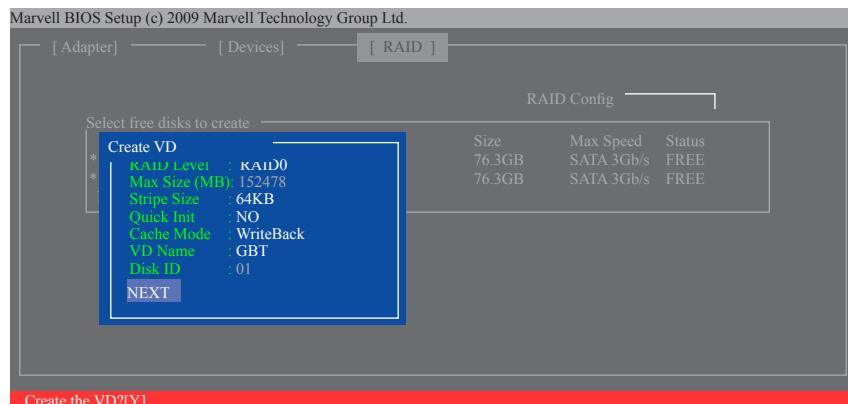

Figure 8
- 6. NEXT:** After completing the settings above, move to **NEXT** and press <Enter> to begin creating the array. When prompted to confirm, press <Y> to confirm or <N> to cancel (Figure 8).